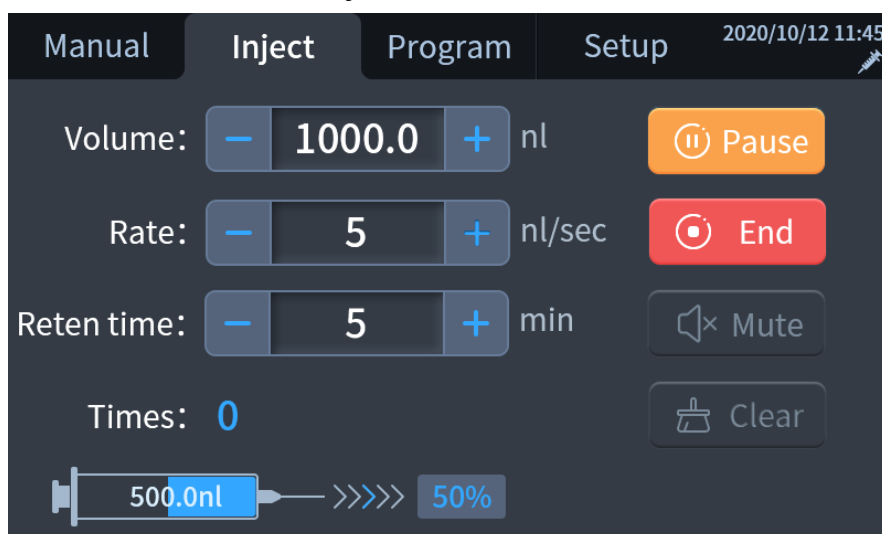

Figure 6-6
- 1) Click  to inject the filling reagent in the target area, as shown in Figure 6-6 to display the injection progress in real time.